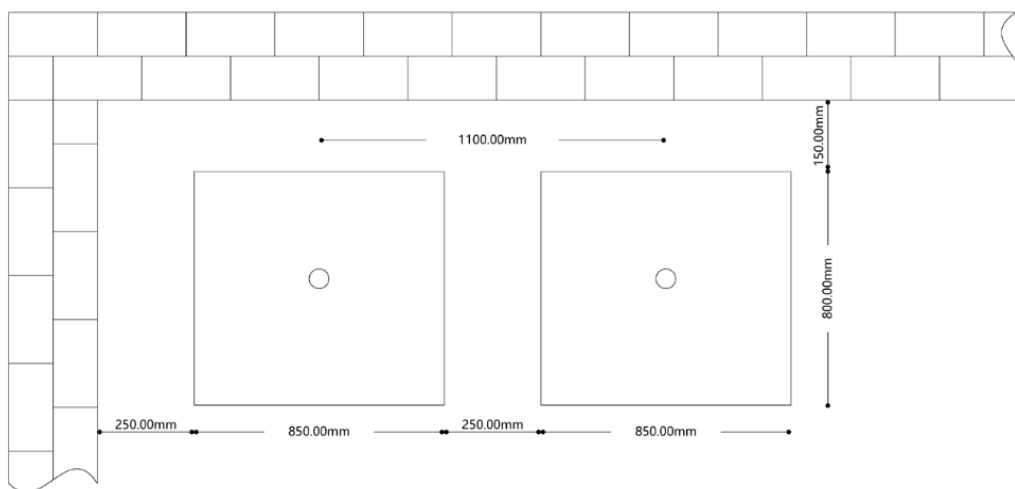

Figure 5-1 Schematic Diagram of Dimensions
- **Workbench:** If you choose not to use our workbench, you can have one built, which should be 700mm in height and with a corresponding sink. The workbench should be able to bear the weight of the robot with a bearing capacity of not less than 155 kg. Its dimensions are as shown in Figure 5-1: